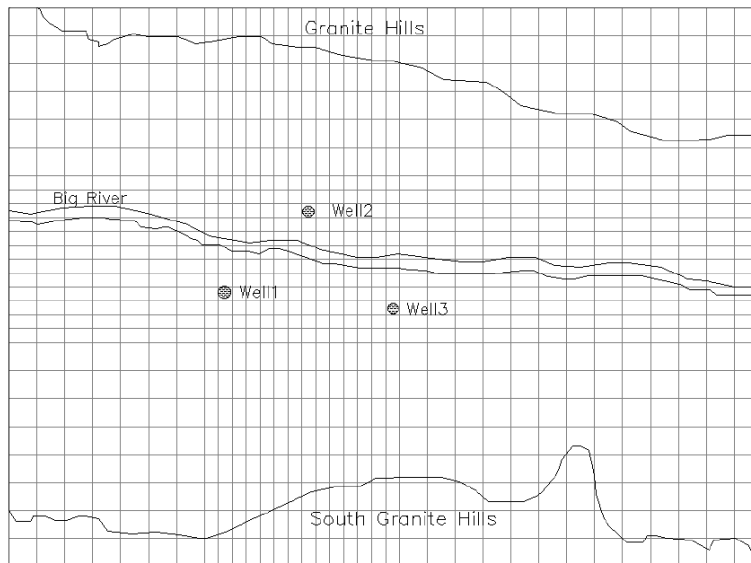

Figure 4.2: Model grid
- You can already refine the grid at the location of the well field. To do so, leave the Grid Editor and enter it again. Then halve the widths of the columns 8 through 14 and rows 7 through 12 by repeatedly right-clicking each of them and specifying the appropriate refinement factor ($= 2$). Your grid will look like the one in figure 4.2.